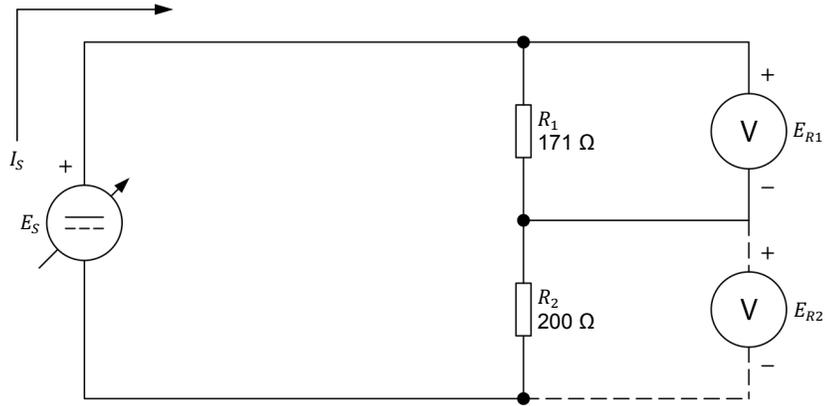

Figure 30. Circuit made of resistors connected in series.
3. Set up the circuit shown in Figure 30. To obtain the resistor arrangement of Figure 30, make the necessary connections and switch settings on the **Resistive Load** module.
6. Calculate the equivalent resistance $R_{Eq.}$ of the series resistors in Figure 30. Then, calculate the source current I_S based on the equivalent resistance $R_{Eq.}$ and the source voltage E_S of 50 V.
10. Disconnect the voltmeter from resistor R_1 and connect it across resistor R_2 , as Figure 30 shows.